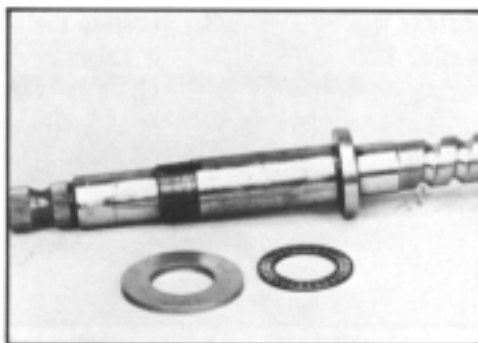

Figure 80
33. Remove the second thrust washer (14) and thrust bearing (15) from worm shaft (23). SEE FIGURE 80.